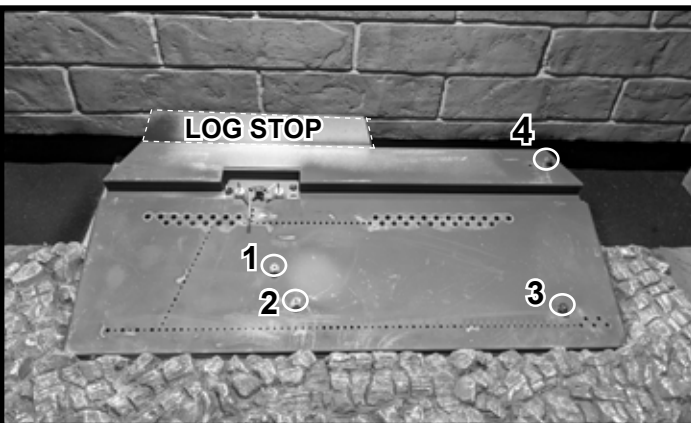
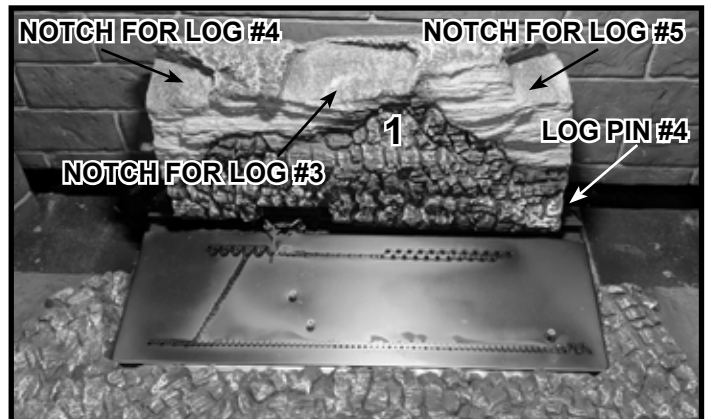
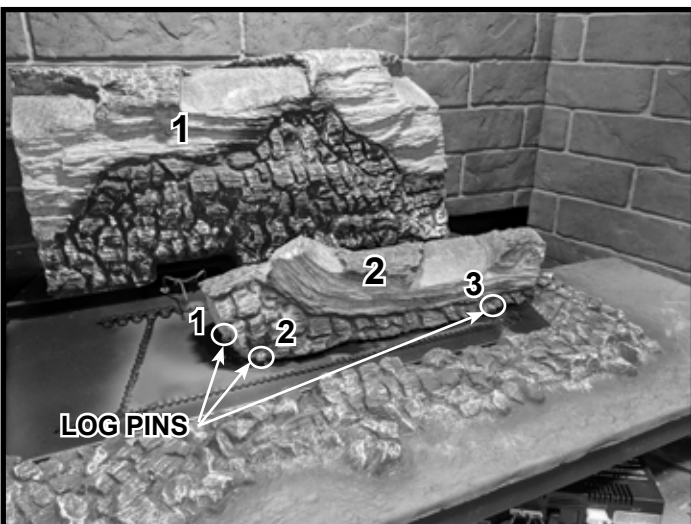

Figure 2 Locations for Log Pins
Figure 3 Position Log #1
Figure 4 Position Log #2
1. Reference the four log pins and the location of the log stop shown in Figure 2.
Log #1: Place Log #1 as shown in Figure 3. The right end touches Log Pin 4. Push the log back until it rests against the log stop shown in Figure 2.
Log #2: Place Log #2 using the three log pins as shown in Figure 2 and Figure 4.
Log #3: Place the top end of Log #3 on the notch located on Log #1. See Figure 3 and Figure 5. Place the bottom end of Log #3 as shown in Figure 5. The burned out side of Log #2 and the knot on Log #3 align, but do not make contact. See Figure 5 and Figure 7.
Log #4: Place the top end of Log #4 on the notch located on Log #1 as shown in Figure 3 and Figure 6. Place the bottom of Log #4 seven inches from the bottom of Log #3 as shown in Figure 6.
Log #5: Place the top end of Log #5 on the notch located on Log #1. See Figure 3 and Figure 7. The bottom end of Log #5 rests on the base refractory as shown above. The space between the bottom right side of Log #3 and the bottom left side of Log #5 should measure 13-1/2 inches as shown in Figure 7.